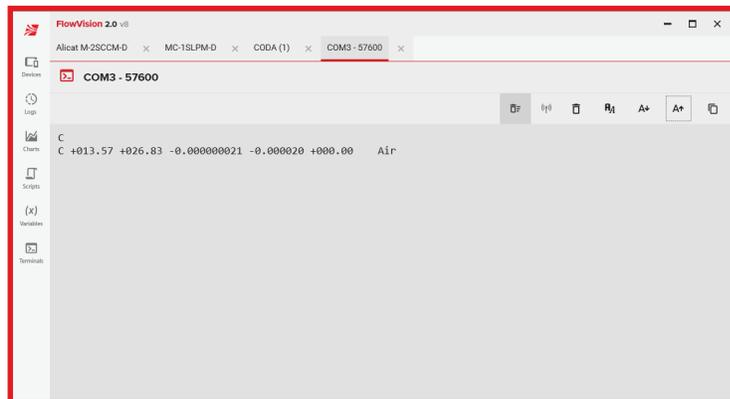

Figure 32. Terminals tab.
See figure 32
- If the connection is successful, the terminal tab opens in the workspace (figure 32).